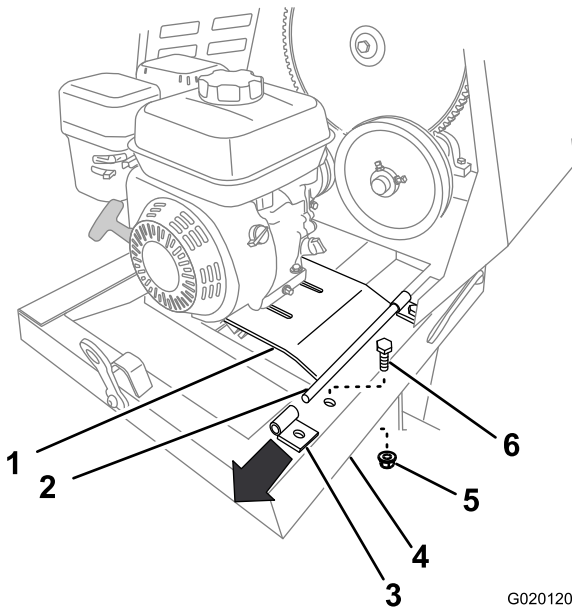

Figure 49
7. Remove the bolt and nut that secure the rear bracket for the engine deck hinge to the frame of the machine (Figure 49).
8. Lift up on the rear edge of the engine deck and remove the hinge bracket (Figure 49).
6. Secure the rear bracket to the frame of the machine using the bolt and nut (Figure 49) removed in step 7 of Removing the Engine (page 34).